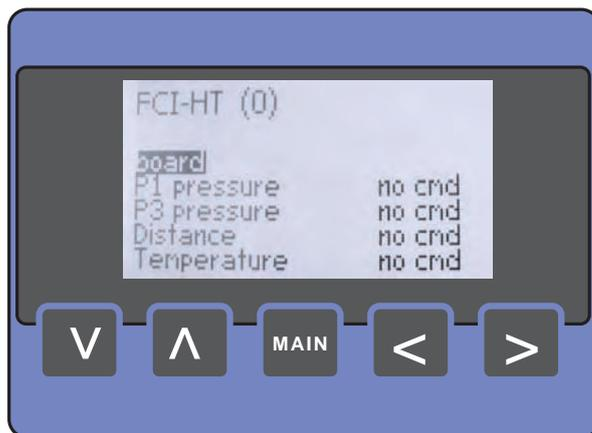

FIGURE 4-11
- The [\[function list\]](#) screen (see FIGURE 4-11) shows all *available functions* of the previously selected board. You can navigate through the function list by using the up and down buttons. You can return to the [\[board list\]](#) screen by pressing the left button. A function can be selected by simultaneously pressing the left + right button. If a FlexConn module does *not* contain any function commands, this will be indicated in the list (<no cmd>).